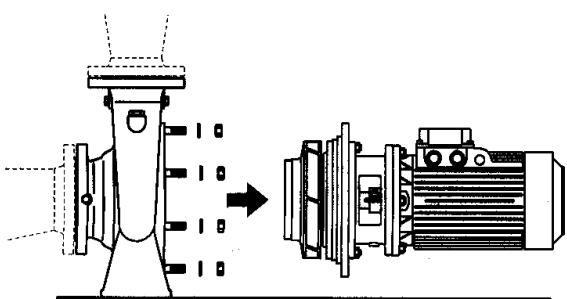

Fig.: 6
4. Start up the basin water recycling pump, checking the direction of rotation which is marked by an arrow on the pump and the electric values of tension and intensity which should not overcome the suitable ones in the motor label. In some cases, due to oxidation for the rain water, the impeller of the pump can present a slight blockade. In this case stop the pump immediately and to unblock the impeller manually disassembling the pump if necessary. (To see Fig. 6)
3. Extraer el conjunto del motor y partes móviles del cuerpo de la bomba.(ver fig.: 6)
3. Extract the motor and mobile parts of the pump. (See fig.: 6)